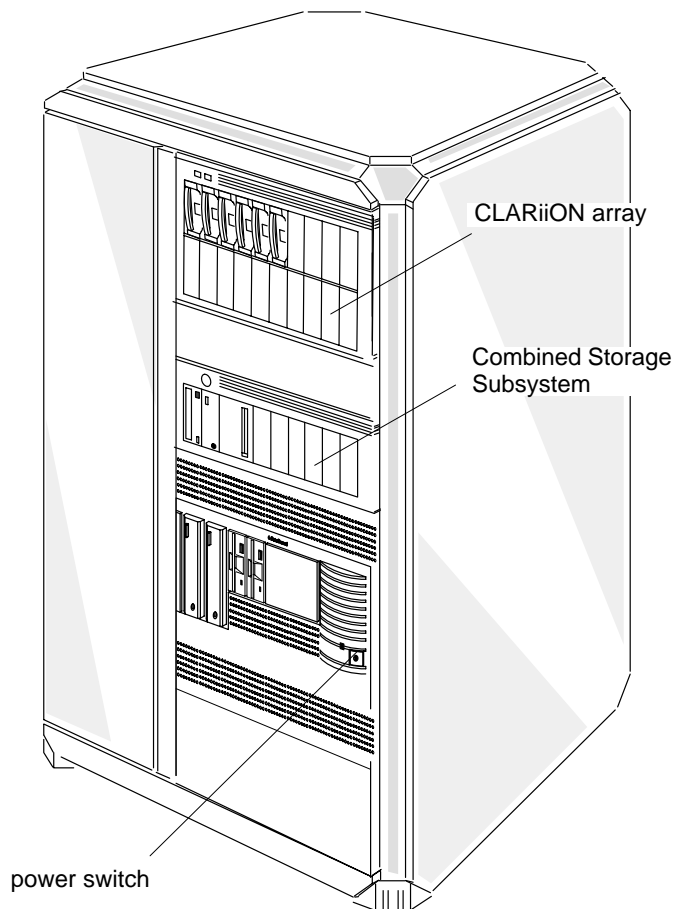

Figure 1-1 Powering on an AViiON 9500
3. Turn on the computer unit by pressing the power switch on the front panel. Make sure the power switch on the computer lights up and returns to its position flush with the front panel. Figure 1-1 shows the location of the power switch.